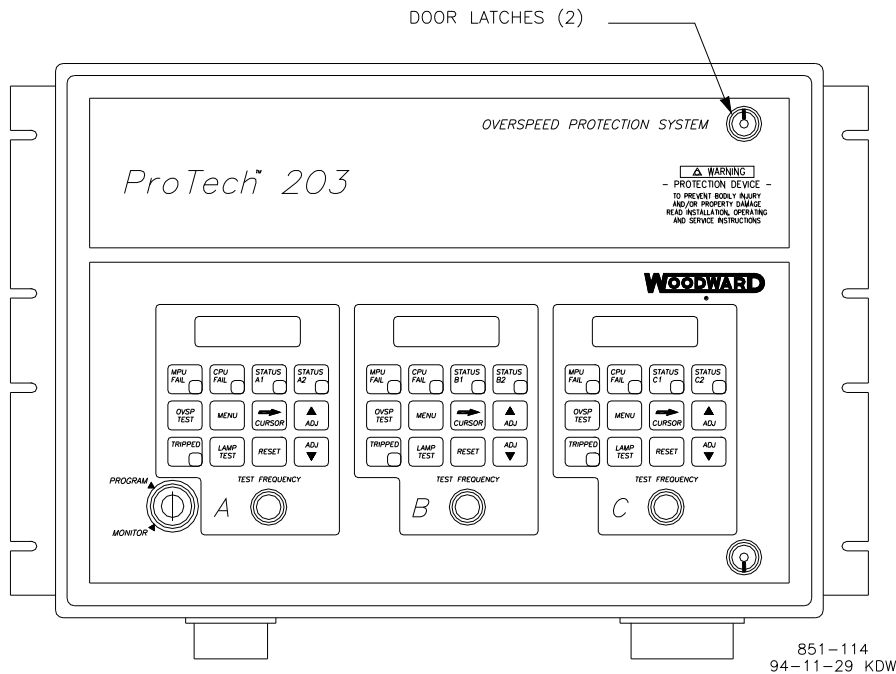

Figure 5-1. ProTech System Front Door
- To open the front door, turn the two door latches (counterclockwise) see (Figure 5-1).
2. To open the front door, turn the two door latches (counterclockwise) (Figure 5-1).
10. Attach both ribbon cables to the I/O board (Figure 5-1).